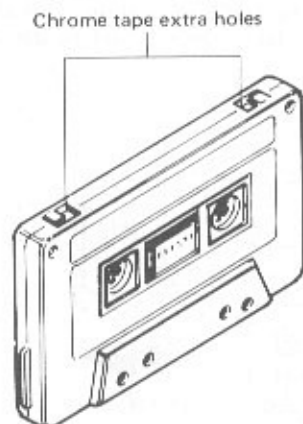

Fig. 2
A chrome tape detecting mechanism is incorporated into this tape deck. When the employed chrome tape is equipped with extra detecting holes, as shown in Fig. 2, bias is automatically switched for chrome tape specifications, however equalization should be selected by setting the TAPE SELECTOR switch.
*Do not use chrome tapes that are not provided with chrome detection holes since the automatic BIAS selector mechanism will not be actuated (see Fig. 2).*